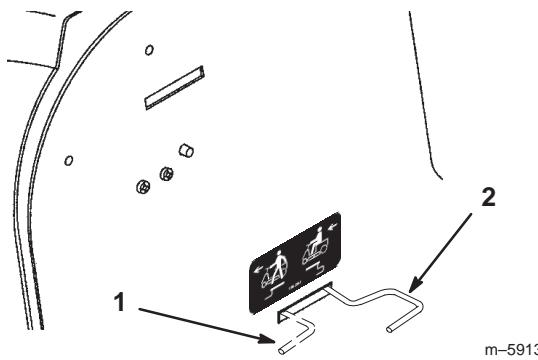

Figure 12
3. Push the drive control rod in and slide it to the left to lock it in place (Fig. 12). This disengages the drive system and allows the wheels to turn freely.
2. Slide the drive control rod to the right and pull it out (Fig. 12). This engages the drive system.